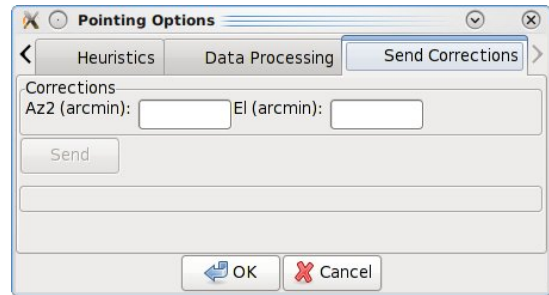

Figure 5.6: The pop-up menu to manually send pointing corrections to the telescope.
**Step 4.** Enter the corrections in the text box, and click **Send** to send the solutions to the telescope. (see Figure 5.6).